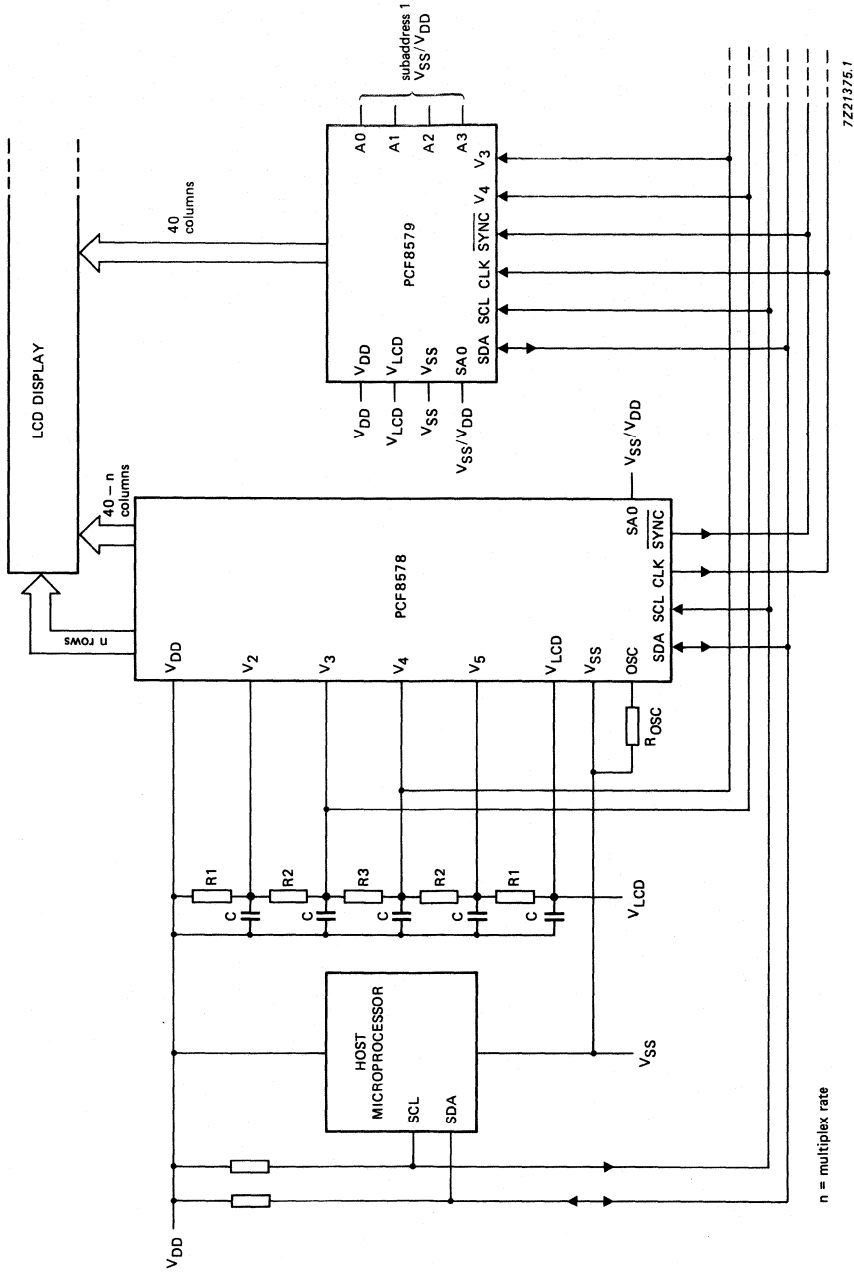

Fig. 3 Typical mixed mode configuration.
Bias levels may be generated by an external potential divider with appropriate decoupling capacitors. For large displays bias sources with high driver capability should be used. A typical mixed mode system operating with up to 15 PCF8579s is shown in Fig. 3 (a stand-alone system would be identical but without PCF8579).
**Table 2** Multiplex rates (see Fig. 3)